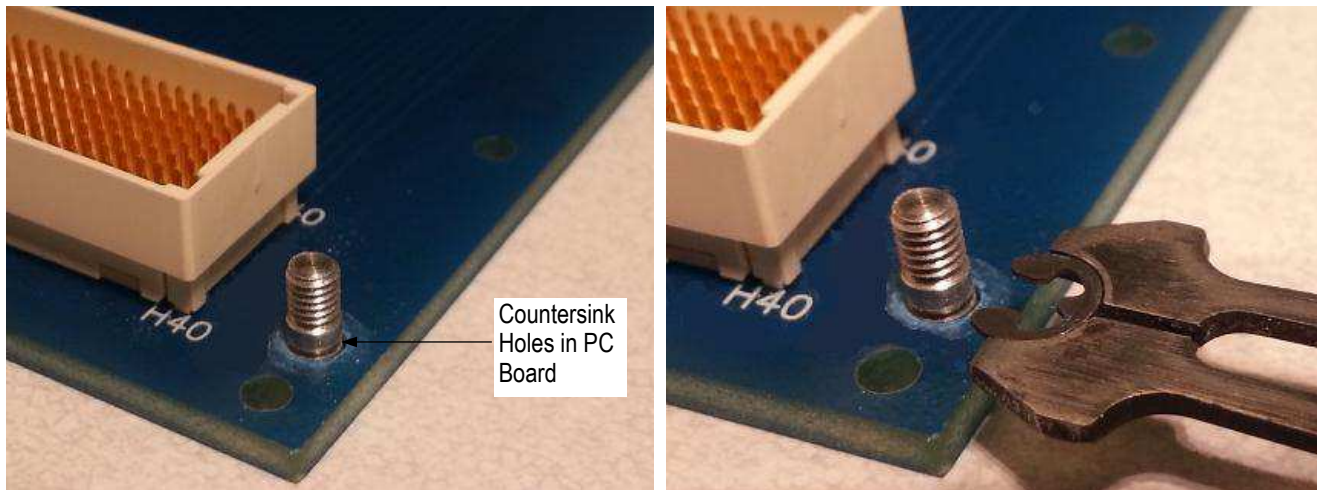

Figure 15
2. Install e-clip in groove on jack screw as shown in Figure 15.